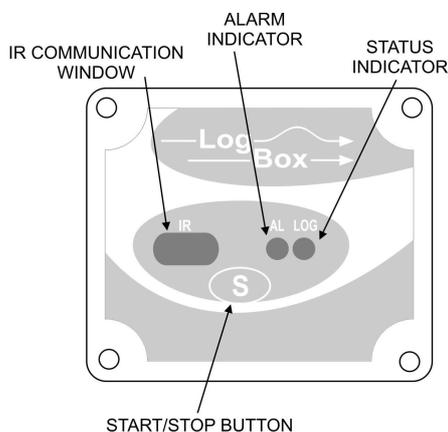

Figure 01 – Logger Front
- **Immediately:** start as soon as programming is considered to be ready, and is then sent (OK) to the logger.
- **Through Start Button:** starts and interrupts readings by pressuring the Start button, in the frontal part of the logger, for two seconds. See Figure 01.